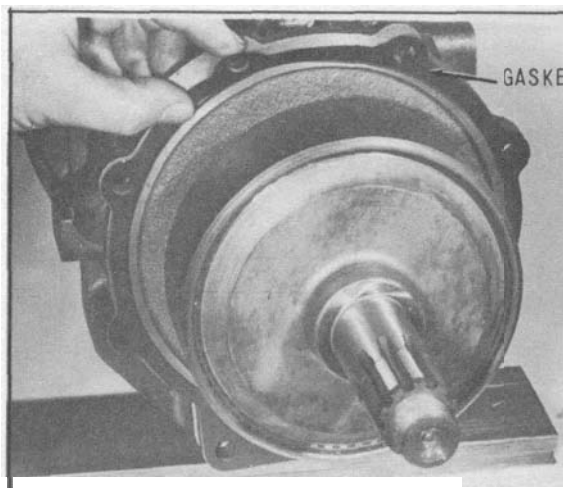

Fig. 28 Installing the Reduction Housing Gasket-Rear
28. Use petroleum jelly to hold reduction housing gasket-rear in position as shown in (Fig. 28).